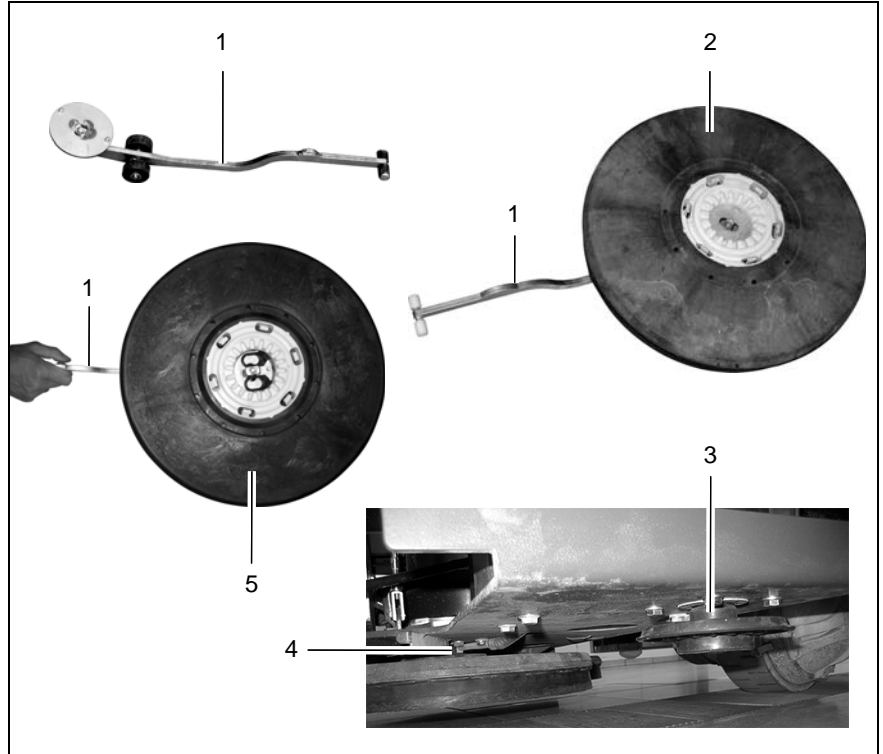
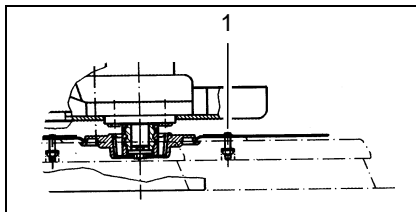

Fig. 7
Fig. 8
3. Position the middle brush (Fig. 7/2) or middle pad (Fig. 7/5) as illustrated in Fig. 7 on the assembly tool (Fig. 7/1).
4. Take hold of the assembly tool (Fig. 7/1) at the narrow end and slide the brush (Fig. 7/2) or pad (Fig. 7/5) under the middle brush catch (Fig. 7/4).
- Force the narrow end of the assembly tool (Fig. 7/1) downwards. As a result of the levering effect, the brush (Fig. 7/2) or pad (Fig. 7/5) is pressed into the brush catch and audibly latches in place.
- Slide the brush (Fig. 7/2) or pad (Fig. 7/5) under the brush head in accordance with Fig. 8.
- Raise the brush (Fig. 7/2) or pad (Fig. 7/5) and turn it slightly until the toothing meshes.
- Pull the brush (Fig. 7/2) or pad (Fig. 7/5) up until all six hooks latch in the catches.
- Pull the brush (Fig. 7/2) or pad (Fig. 7/5) from the brush head. Or:
- Slide the narrow side of the assembly tool between the brush/pad and brush head and press the wide end of the assembly tool downwards. As a result of the levering effect, the brushes / pads are released from the brush head (Fig. 7/3).